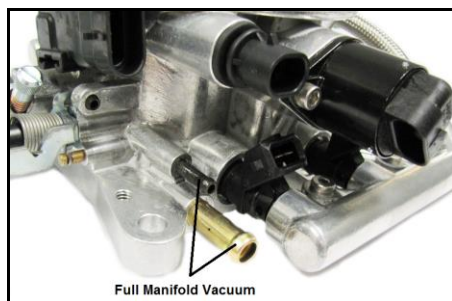

Figure 3
1. Connect the vacuum lines that were previously disconnected. **Figures 3 & 4** show the function of the ports in the TERMINATOR™ throttle body.